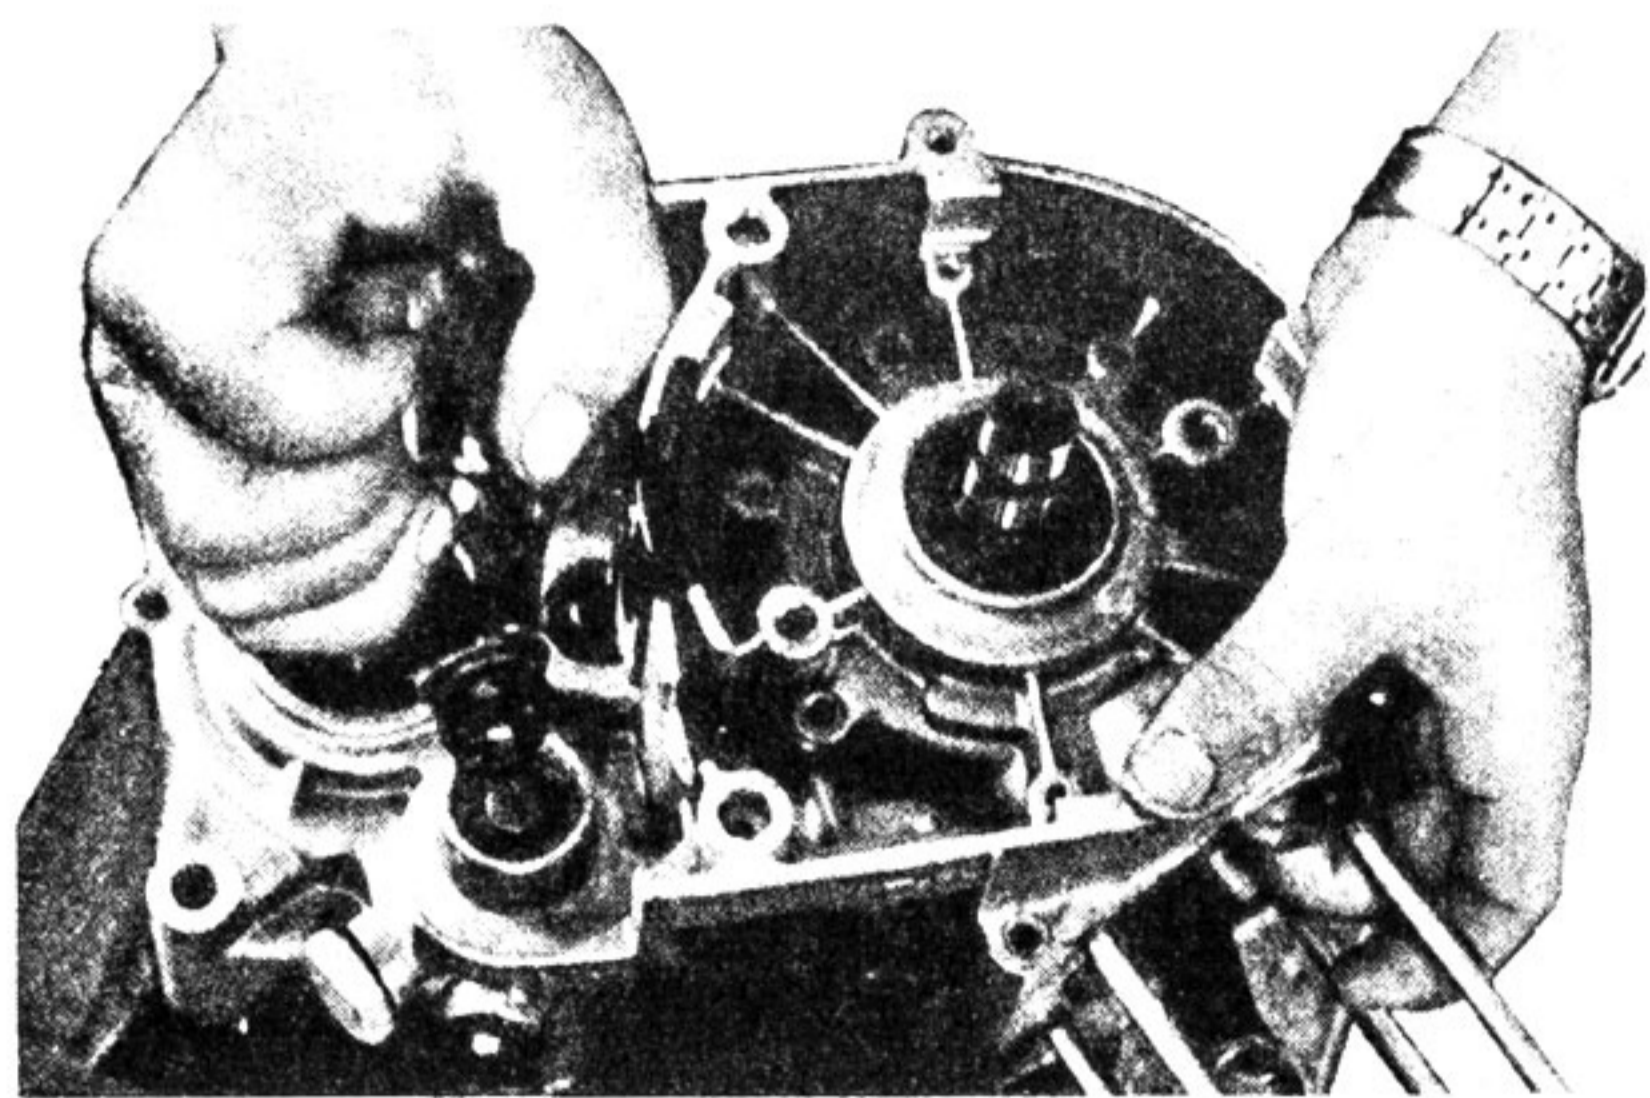

Fig. 4-16-3
- (1) Remove the circlip, holder, and washer from the gear shift drum on the left side of the engine. (Figs. 4-16-3 and 4)